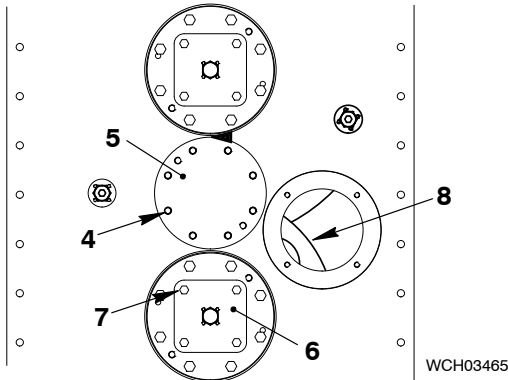
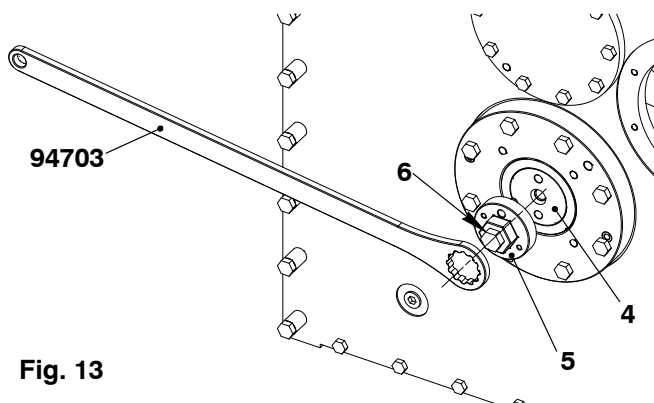

Fig. 12
Fig. 13
- 1) Remove the eight screws (4, Fig. 12) and the cover (5).
**Note:** You can get access to the service hole (8, Fig. 12) in the engine.
- 4) Remove the four screws (7) on the bottom bearing cover (6) at the outer side.
- a) Install the socket insert (5, Fig. 13) with the screw (6) on the pin (4) of the bottom bearing.
- b) Torque the screw (6) to 100 Nm.